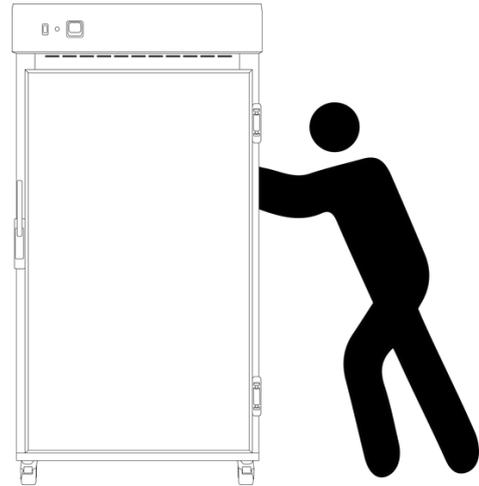

Fig 3. Safe moving of cabinet.
**NOTE:** Drying ovens are 'Top Heavy'. Do not move the cabinet too quickly. (**Fig 3 & 4**)